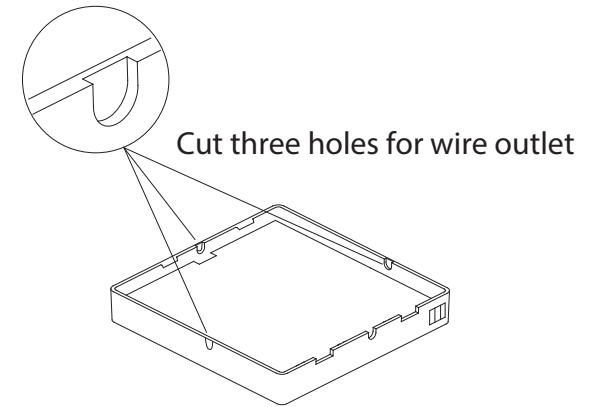

Fig. 5
- For exposed mounting, cut holes on three of the sides according to Fig. 5.